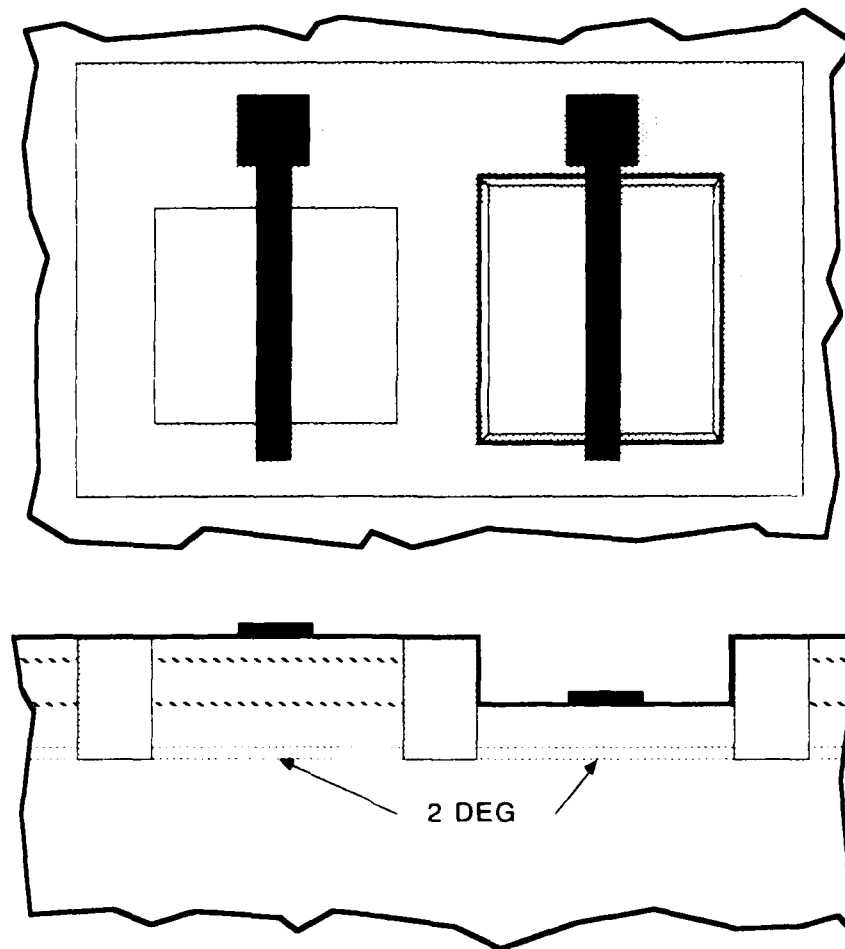

FIGURE 4
- Figure 4. HFET Gate Formation